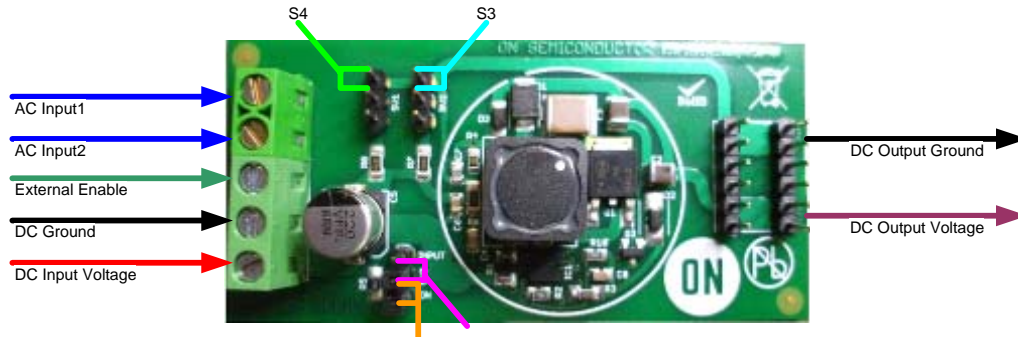

Figure 1: NCP3066 SEPIC PCB
4. Shorting either S4 or S3 as shown in Figure 1 will place R7 and R6 current sense resistors in parallel with R8. The NCP3066 SEPIC demonstration PCB is configured to output 350 mA when the LED load is set to 7.2 V. Placing one resistor in parallel with R8 by connecting either S4 or S3 will increase the current to 700 mA. Once the aforementioned steps are completed, both S4 and S3 will be shorted and the current limit will increase to 1.05 A.
3. Shorting either S4 or S3 as shown in Figure 1 will place R7 and R8 current sense resistors in parallel with R8. The NCP3066 SEPIC demonstration PCB is configured to output 350 mA when the LED load is set to 7.2 V. Placing one resistor in parallel with R8 by connecting either S4 or S3 will increase the current to 700 mA. Once the aforementioned steps are completed, both S4 and S3 will be shorted and the current limit will increase to 1.05 A.
4. Shorting either S4 or S3 as shown in Figure 1 will place R7 and R6 current sense resistors in parallel with R8. The NCP3066 SEPIC demonstration PCB is configured to output 350 mA when the LED load is set to 7.2 V. Placing one resistor in parallel with R8 by connecting either S4 or S3 will increase the current to 700 mA. Once the aforementioned steps are completed, both S4 and S3 are shorted and the current limit will increase to 1.05 A.